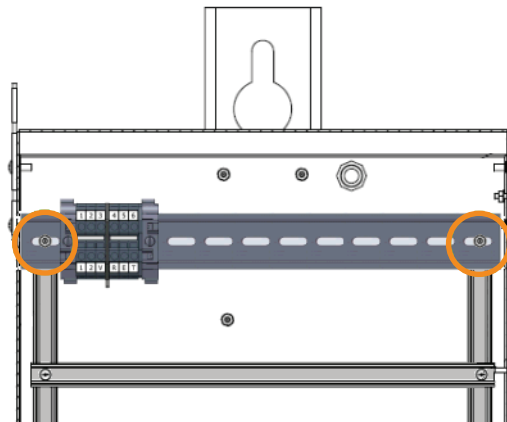

Figure 2 Install 12 V Terminal Block
- Step 3. Install the 12 V terminal block subassembly to the top of the accessory mounting kit with two 10-32 self-locking nuts. See *Figure 2*.